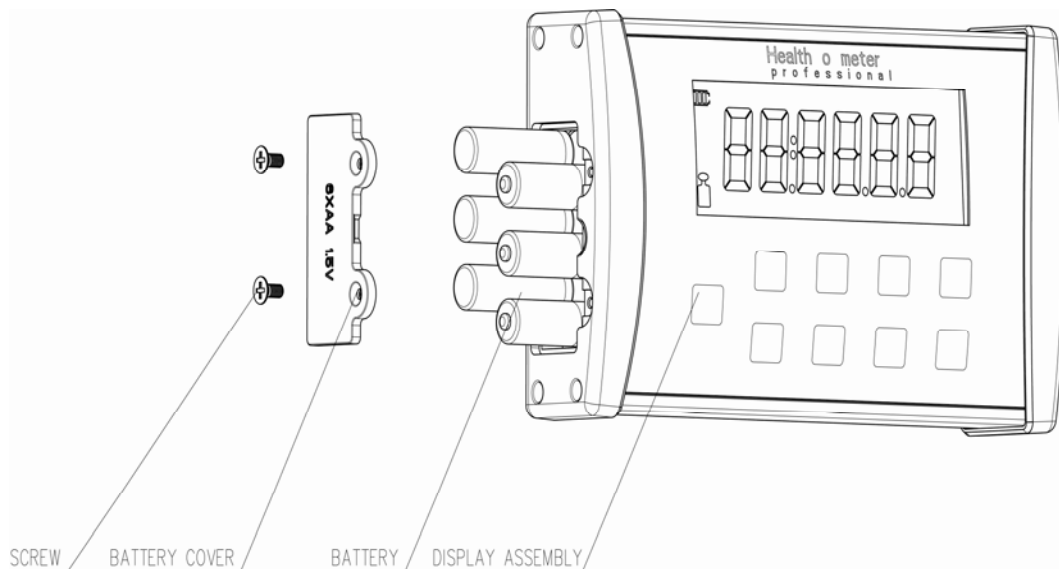

Figure 5
3. Use a Phillips head screwdriver to remove the battery cover on the side of the display assembly by unscrewing the (2) battery cover screws (see Figure 5).